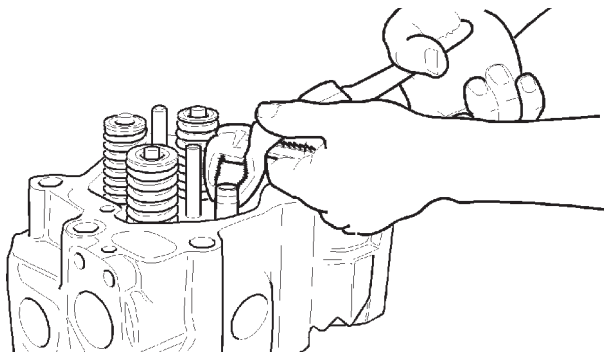

Figure 5-20
2. Remove valve stem seal with a pair of pliers (**Figure 5-20**).